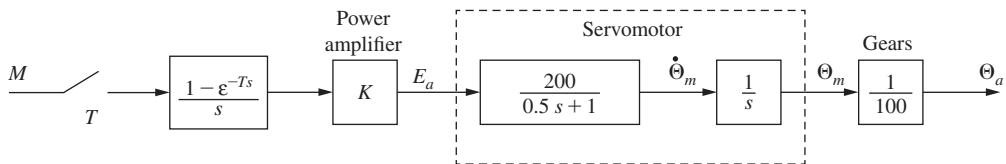

FIG. P4.3-8 Model of robot arm joint.
4.3-8. Shown in Fig. P4.3-8 is the block diagram of one joint of a robot arm. This system is described in Problem 1.5-4. The signal $M(s)$ is the sampler input, $E_a(s)$ is the servomotor input voltage, $\Theta_m(s)$ is the motor shaft angle, and the output $\Theta_a(s)$ is the angle of the arm.
- Suppose that the sampling-and-data-reconstruction process is implemented with an analog-to-digital converter (A/D) and a digital-to-analog converter. Redraw Fig. P4.3-8 showing the A/D and the D/A.